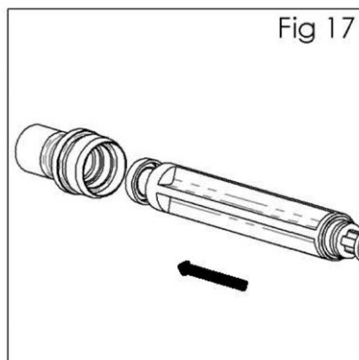

Fig 17
15. Fit new seal(22) to service tool (44). Groove must face outwards. Press seal (22) to housing (27). (See fig 17)
16. Reassemble remaining parts in reverse order — valve (20), spring (21), housing (27) and tighten with 6mm hex key, needle (24) spring (29) and knob (28). Replace trigger (39), fitting trigger stud (40), screw in the trigger screw (38) with Star T20 tool.
17. Trigger gun fully and screw in fluid adjusting knob (28) until it stops. Back it off 1/2 turn and gun will have full needle travel.